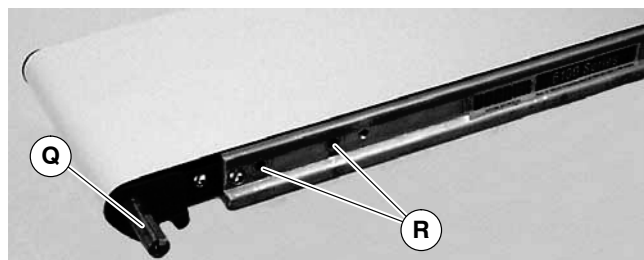

Figure 8
3. Locate drive output shaft (Q of Figure 8) and remove two (2) screws (R).